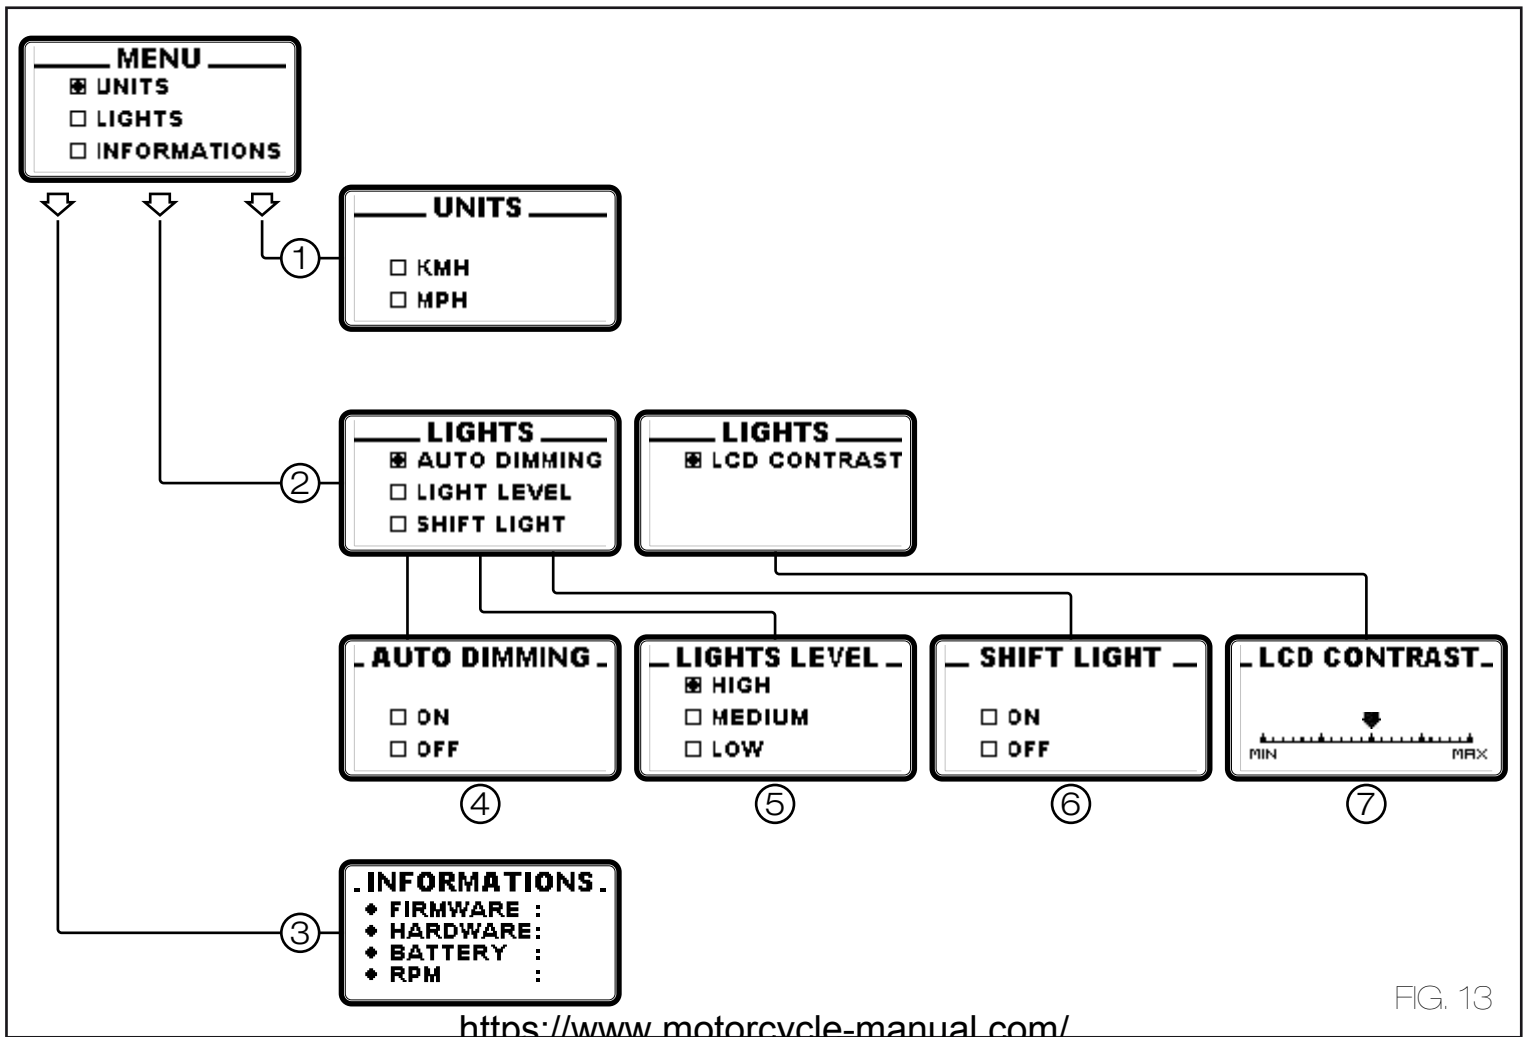

FIG. 13
You can access the main menu (Fig 13) by pressing button (1) for several seconds. The access to this function offers the possibility to modify the units of measure as well as the different settings for the LCD screen. General information relating to the control unit can also be found in this section.
This menu allows access to auto-dimming (5 Fig. 13), adjustment of luminosity, the adjustment of contrast and the activation of the flashing of LEDs.